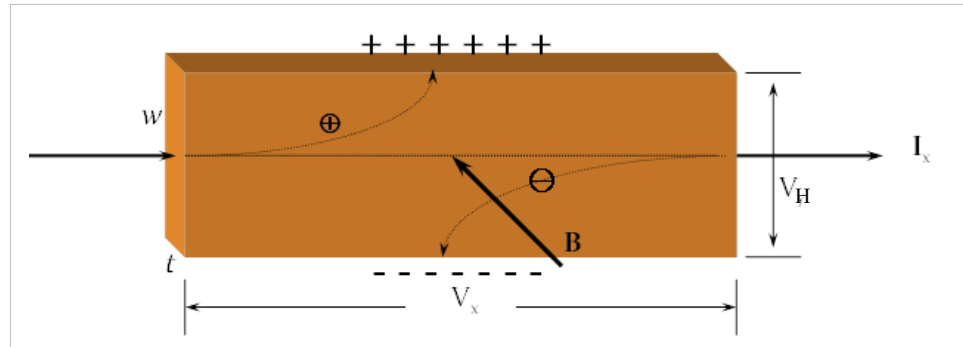

FIGURE 1-4 Hall effect
When the combination of a magnetic field and a flowing current in a material produces a new voltage, the Hall voltage, it is called the Hall effect. The Hall effect is illustrated in FIGURE 1-4 and can be explained as a long thin material with a current, I , flowing along the length. The current, I , is the total charge per second and is related to the velocity (V_x) by $I = neV_x w t$, where n is the volume concentration of the carriers in the material and V_x is the velocity of the carriers. If a static (DC) magnetic field is present in the z direction (into the plane of the paper in FIGURE 1-4), then there is a force on the charges given by $-eV_x B$. This force, called the Lorentz force, pushes the carriers along the curved lines in FIGURE 1-4.